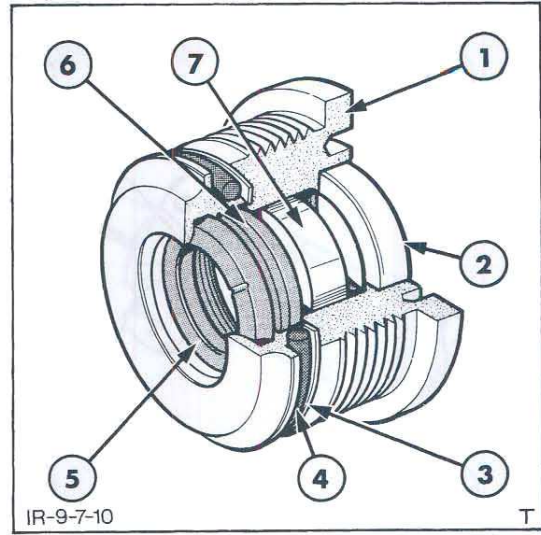

Figure 34
8. Remove the seals and nylon bearing from the gland taking care to note the orientation of the groove in the buffer seal, Figure 34.